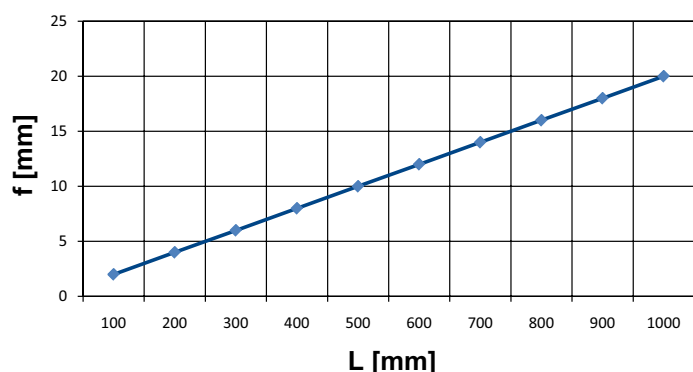

Fig. 8.11 Diagram of the tensioning force of the straps
- using screw 5, adjust the tension of the V-belts appropriately (see graphic fig. 8.11);